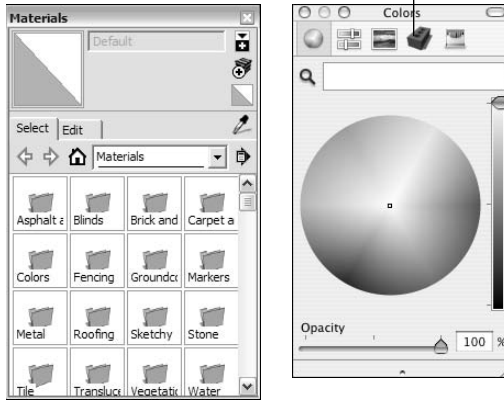

Figure 3-11:
- 1. Choose Window⇨Materials to open the Materials dialog box (see Figure 3-11). Click a color or texture you like.**